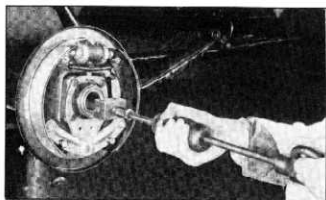

Fig. 6—Axle Shaft Bearing Puller
2. Insert special bearing puller J-1436 and remove bearing, bearing retainer and oil seal (fig. 6).